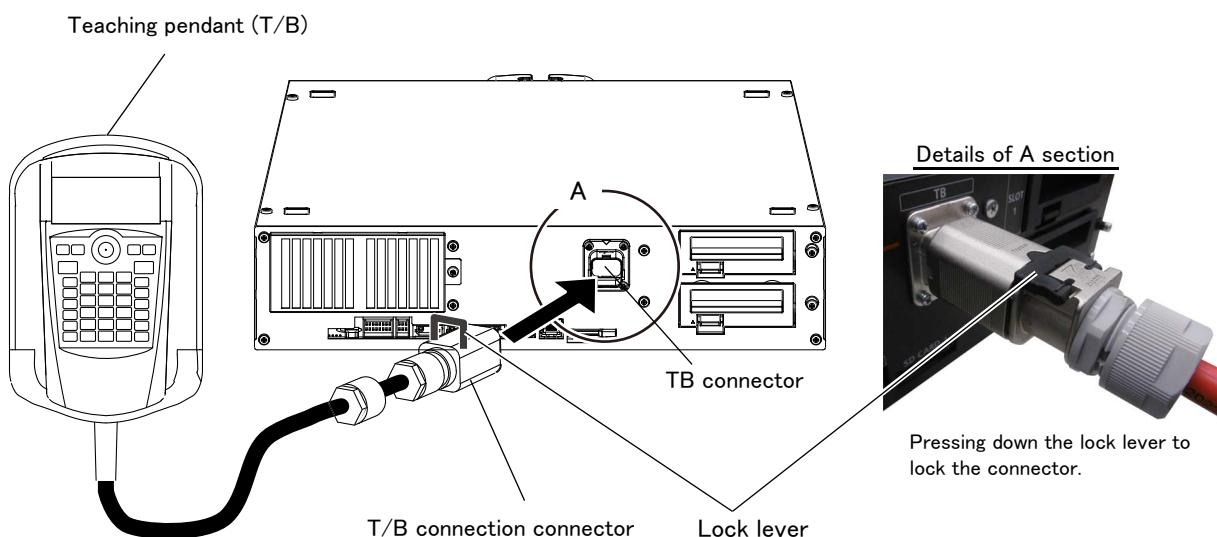

Fig. 2-22 : Installing the T/B
- 2) Refer to Fig. 2-22 and connect T/B connector to the robot controller.